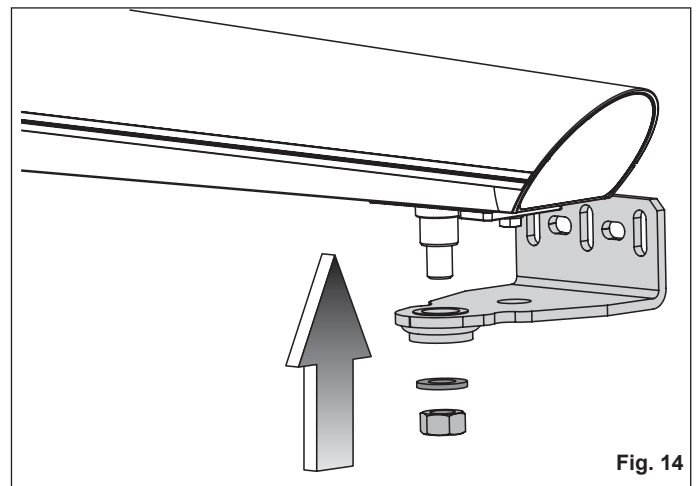

Fig. 14
- Secure the front bracket as indicated in Figure 14.